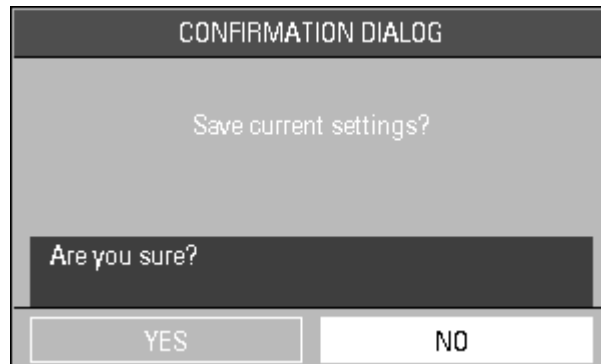

FIGURE 3-3 Confirmation Dialog Box
1. Select **SAVE CURRENT** from the **MONITOR SETUP** menu. The confirmation dialog box in FIGURE 3-3 is displayed.